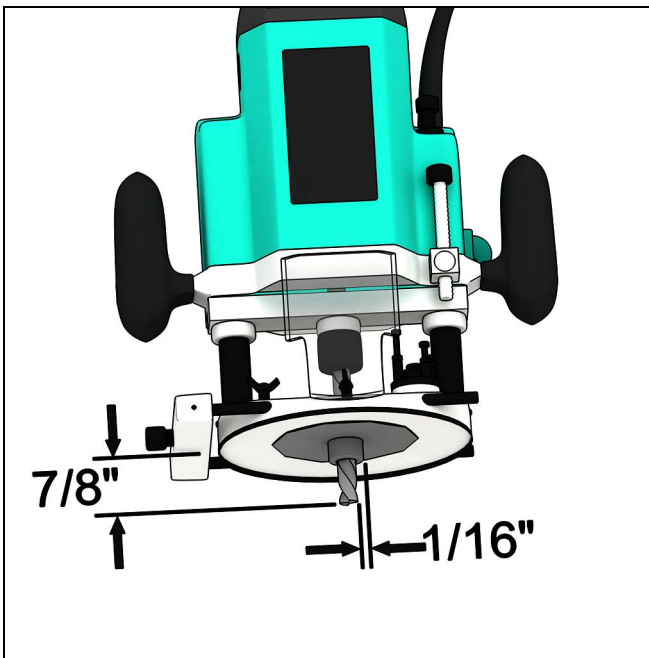

Figure 4
10. Set the routing depth to 7/8". See Figure 4
18. For ESSH only, attach the WOCD-fabricated parting stops to the frame. Be sure routes on the parting stops do not interfere with the WOCD. See Figure 4